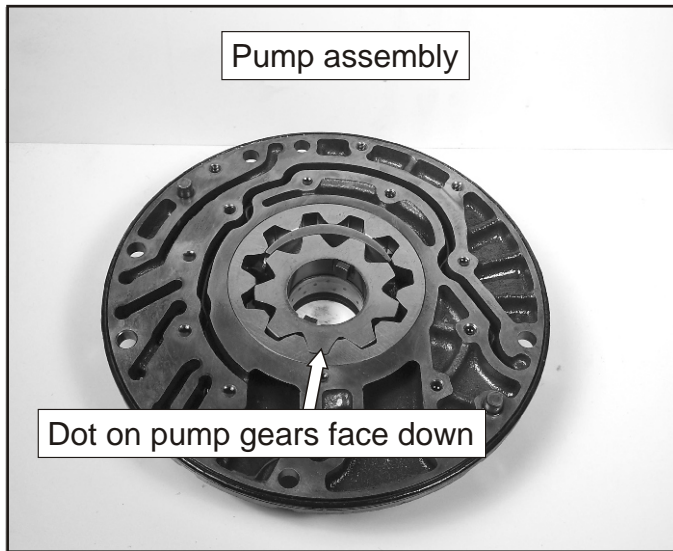

Figure 113
62. Assemble the pump gears into the pump body with the dot on the pump gears facing down, as shown in Figure 113. Lubricate the gears with a small amount of ATF.